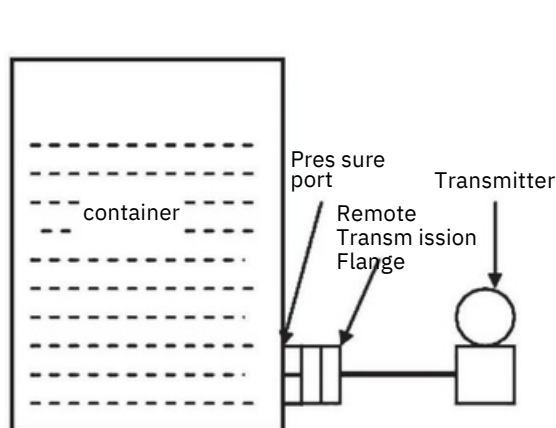
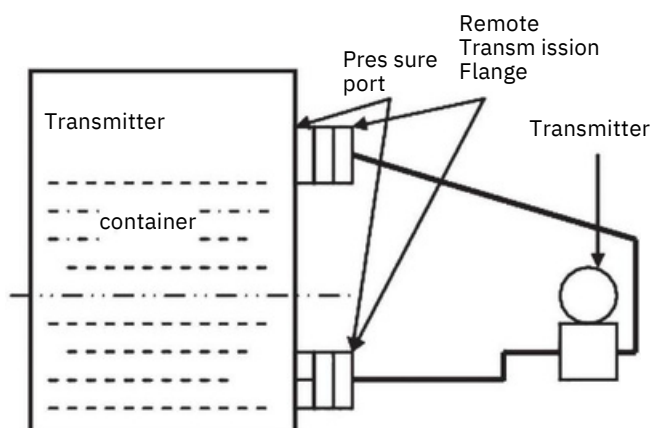

Figure 1 Transmitter installation with single flange
Figure 2 Transmitter installation with double flange
- ①The shorter the capillary, the better;
- ②When installing a transmitter with one remote transmission flange, when measuring the liquid level of the container, the transmitter should be kept at the same level as the process joint and flange or lower than the pressure port and flange (see Figure 1 below). For transmitters with two remote transmission flanges and flanges installed at different heights, the transmitter should be installed at or below the midpoint between the two flanges and the pressure port (see Figure 2 below).
- ③The remote transmission flange and capillary installed on site should be avoided from direct sunlight;
- ④For transmitters with two remote transmission flanges, the capillary lengths of the two should be as similar as possible.